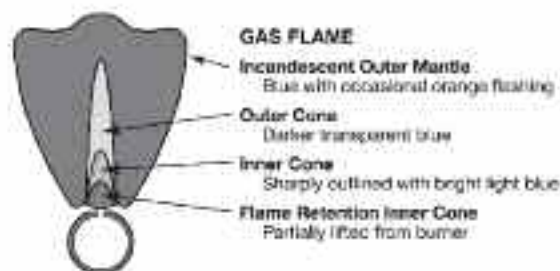

Fig. 16
4. Adjust gas input rate. See Page 9 - *Adjusting Gas Input Rate*. Check main burner and pilot flames. See Fig. 16.
See Fig. 16 for healthy flame diagram.